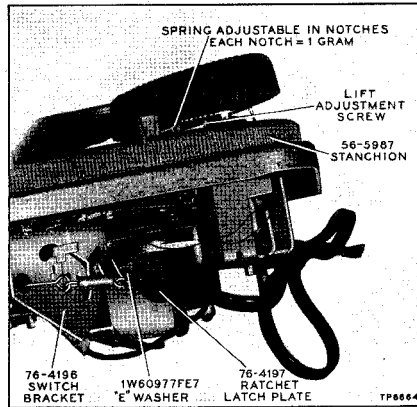

Figure 32. Needle-Pressure Adjustment
to obtain the correct clearance. Then adjust the screw on the pivot assembly (figure 32) so that the tone arm will clear the rest hook on the stanchion, Part No. 56-5987.
a. Remove "E" washer, Part No. 1W60977FE7, from switch bracket, Part No. 76-4196 (figure 32).